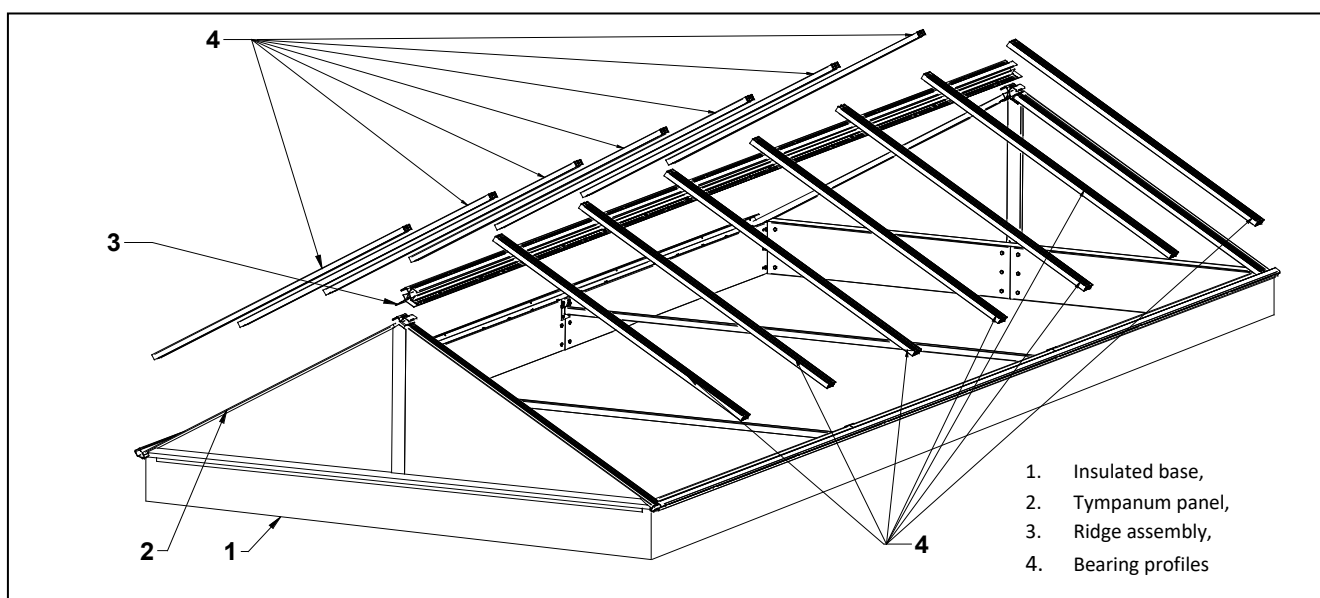

Figure 71 Installation of bearing profiles and assembled set of ridge profiles (step 1)
4. Assemble together the bearing profiles and the ridge assembly (two edge profiles connected with an angle bar) according to the documentation accompanying the delivery. The bearing profile axis must coincide with the axis of tension screw holes in the edge profile (not to be confused with drainage holes) according to the supplied drawing according to (Figure 71 Installation of bearing profiles and assembled set of ridge profiles (step 1)).